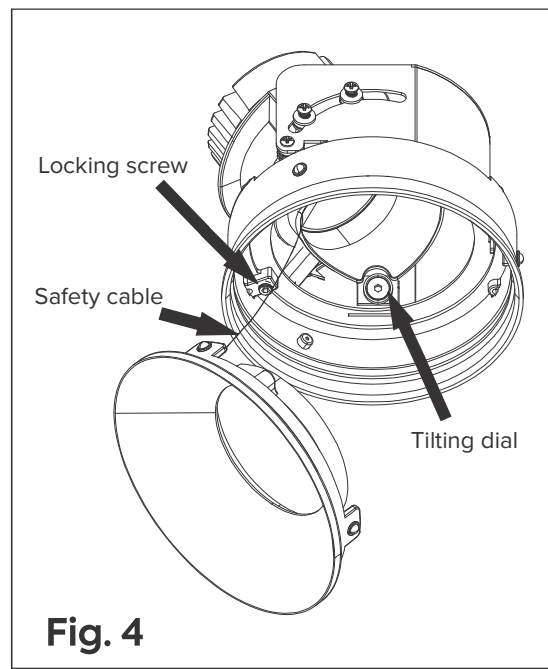

Fig. 4
Step 4: Tuck the safety cable into a corner to avoid obstructing the light and push the trim plate until flush to the trim body **Fig. 4**.